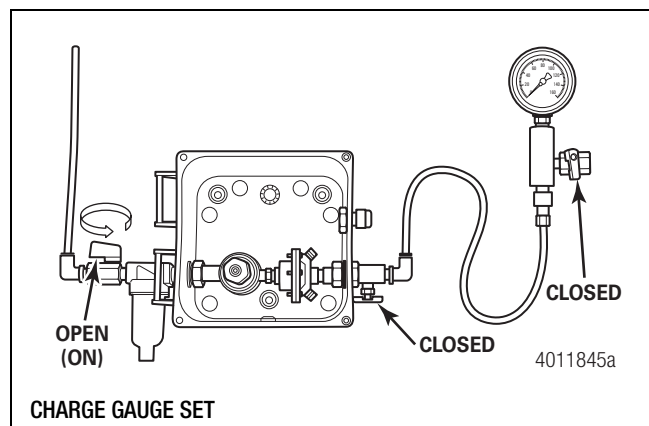

Figure 3.15
- B. Charge the gauge set as follows. Figure 3.15.